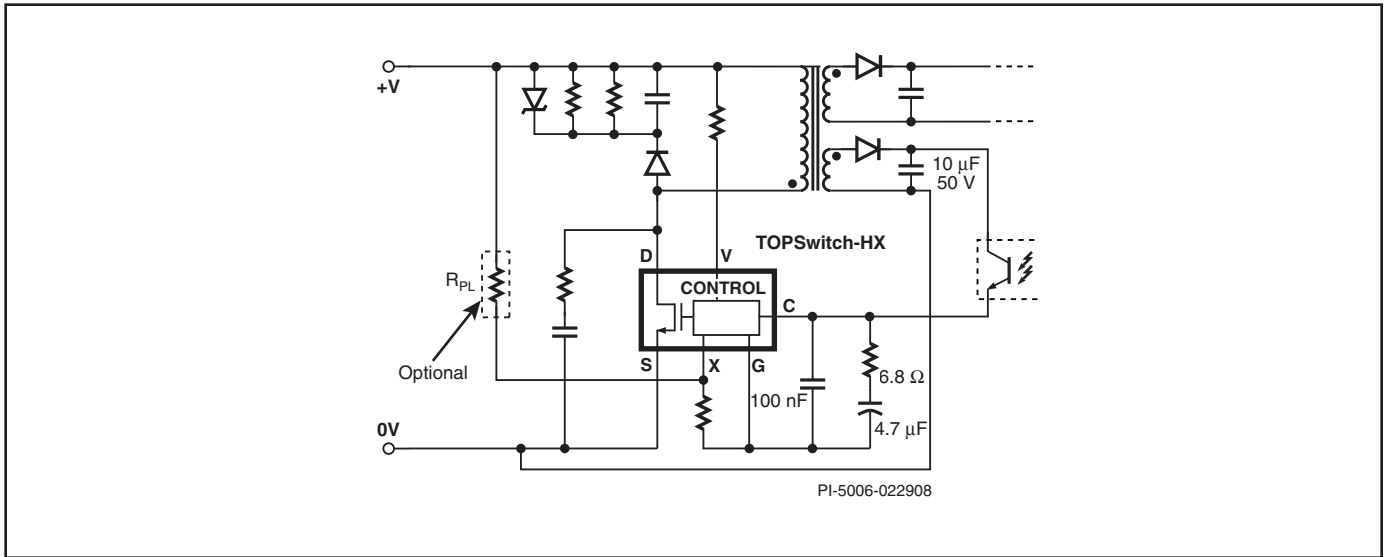

Figure 22. Recommended Circuit Configuration for TOP259YN - TOP261YN with G Pin.
- A soft finish circuit is recommended for high output voltage designs ($>12\text{ V}$). This ensures startup with full load at low line. In Figure 22, R23, D6 and C19 show one implementation of the soft finish circuit.